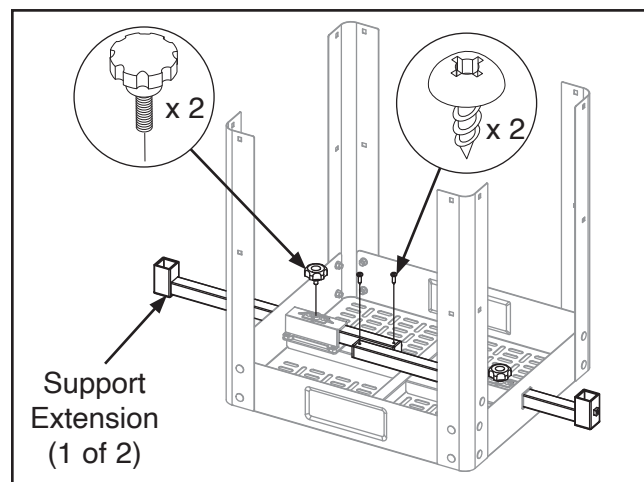

Figure 4. Support extensions installation.
3. Insert support extensions into holes in either side of table (see **Figure 4**), and secure with (2) M8-1.25 x 40 knob bolts.
4. Thread (2) #8 tap screws into pre-drilled hole in end of each support extension (see **Figure 4**).